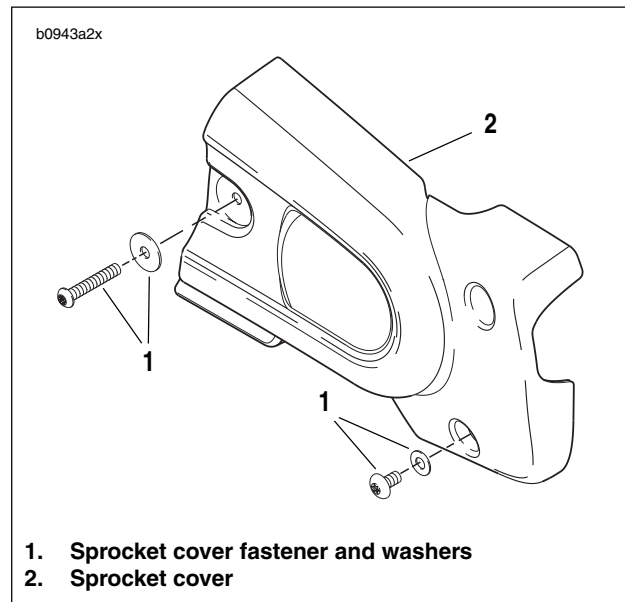
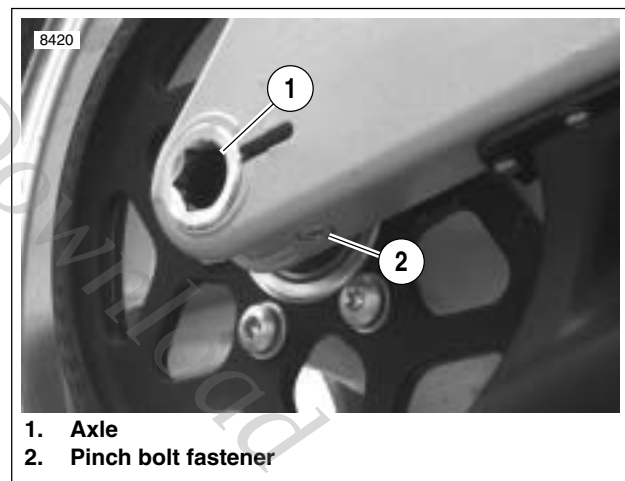

Figure 6-40. Sprocket Cover
Figure 6-41. Rear Wheel Mounting, Right Side
4. See Figure 6-40. Remove sprocket cover. See 2.30.
5. See Figure 6-41. Loosen rear axle pinch fastener (2).
6. Loosen rear axle (1) approximately 15 rotations to allow partial tension to be removed from rear drive system.
8. See Figure 6-41. Tighten rear axle (1) to 23-27 ft-lbs (31.2-36.6 Nm), back off two full turns and then retighten to 48-52 ft-lbs (65.1-70.5 Nm).
9. Tighten rear axle pinch fastener (2) to 40-45 ft-lbs (54-61 Nm).
10. See Figure 6-40. Install front sprocket cover (2) by tightening fasteners to 12-36 in-lbs (1-4 Nm). See 2.30 SPROCKET COVER.